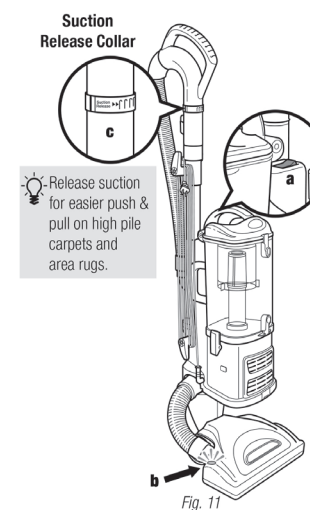

Fig. 11
- Press the On/Off switch (a) to the "I" position to vacuum bare floors (straight suction only) or to the "II" position to engage the motorized floor brush (for vacuuming carpets and rugs). (Fig. 11)
⚠ **IMPORTANT:** The motorized brush indicator light (b) will illuminate green when motorized floor brush is on, or red if there is a blockage or jam. (Fig. 11) This feature is designed to protect your Lifetime Belt that powers your motorized floor brush. See Checking for Blockages on page 20.